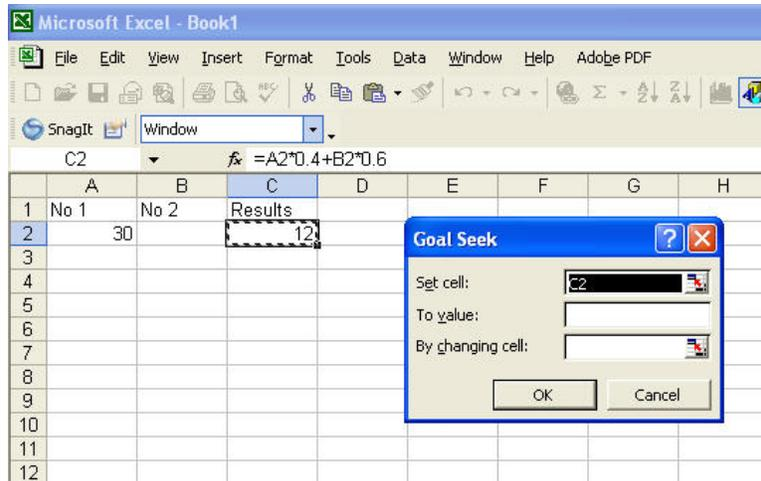

Figure 1.17. Use of Goal Seek option in MS Excel.
- Enter 30 in cell A2, and the formula  $=0.4 \times A2+0.6 \times B2$  in cell C2. Then, highlight cell C2 and from the **Tools** menu, click on **Goal Seek** (Figure 1.17).